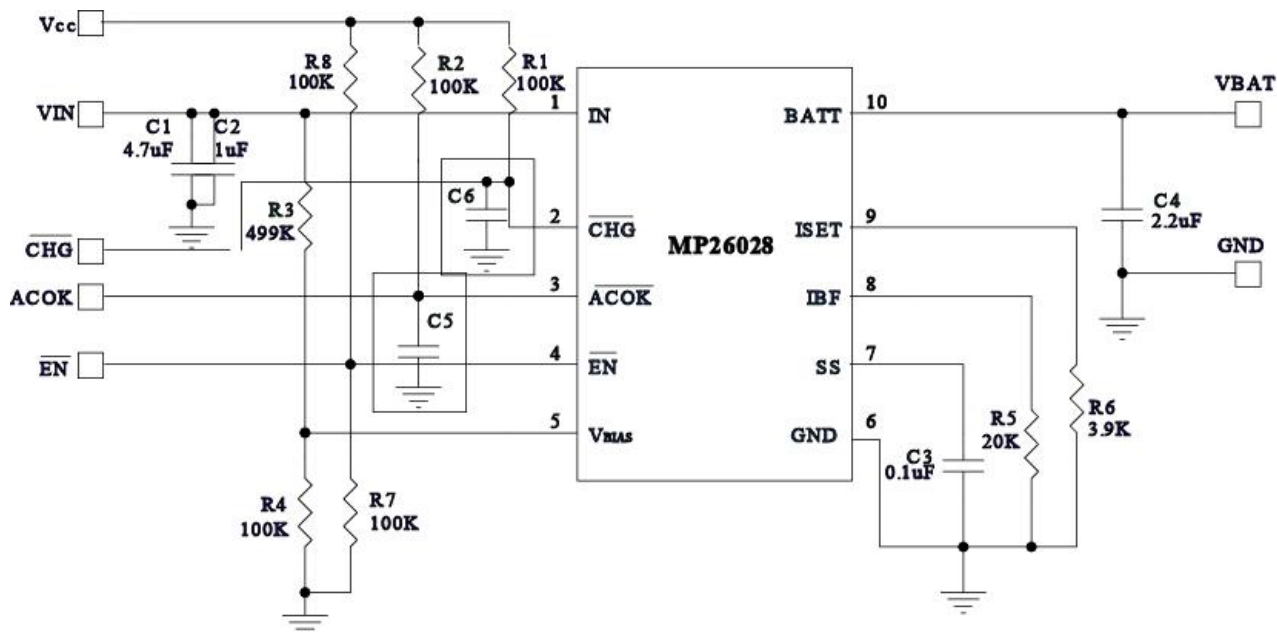

Figure 5—Filtered Charge Status & Input Power Good Interface
When interfacing with the system, glitches may occur on the power supply input (IN) when the AC-power adaptor is plugged in and out. It is desirable to blank the glitches so that the system can properly operate with AC power adaptor. A simple Solution is to add the RC filter (C5 and C6)on the pin $\overline{ACOK}$ / $\overline{CHG}$ as shown in Figure 5. The size of C5 and C6 depends on the width of the glitch and the rise time of the interface.
Power-On Reset (POR) feature can be applied to the MP26028 to ensure that the device starts operating in a known state. The flow chart in Figure 5 describes the conditions and operation